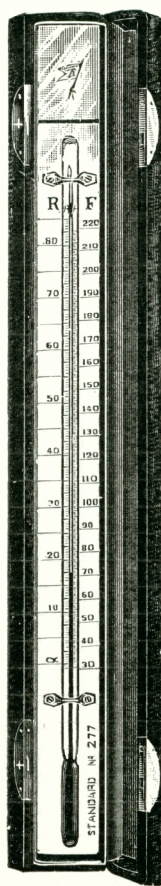

FIG. 28.
- No. 3072—Fig. 28—14 inch Certified Thermometer, scale 32° to 220° F., graduated on tube both F. and R. in $\frac{1}{5}^{\circ}$, with figures and every fifth degree line of scales marked on plate EACH.
- No. 3073. Fig. 28—Set of two 12 inch Certified Thermometers, graduated F. and R. scale, one from -10 to $+40$ R., the other from $+30$ to 80 R. Both F. and R. scales are graduated on the tube in $\frac{1}{5}^{\circ}$, with figures and every fifth degree line of the scales marked on plate. In morocco case Per Set.